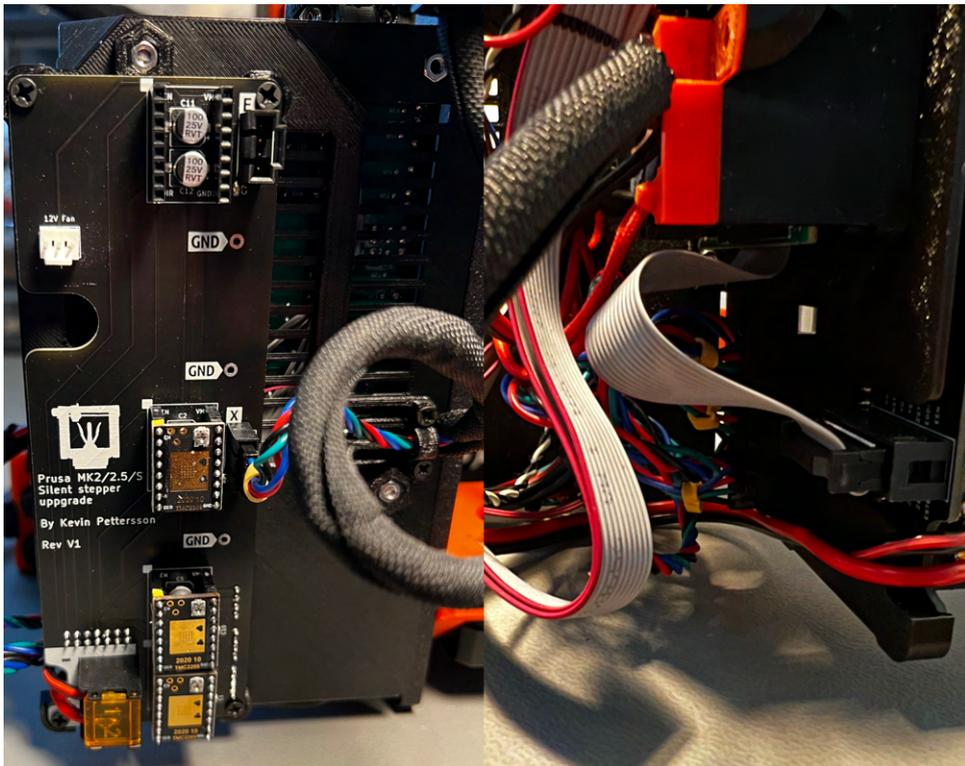

Figure 13: View of front and back of **XYZE** upgrade board for X, Y and Z installation, NOTE depicted image is of V1. V1.1 looks slightly different.
You can now mount the upgrade board with 4 of the included threaded screws. You can then install the power cable in the correct orientation, motor cables, data cable, X-axis strain relief and stepper drivers. I suggest installing the drivers without heat-sink as it will be easier to adjust the v_{ref} later. The result at this stage should look like Figure 13.
5. Lastly, add the cable to the cable sleeve and connect it to the LED port located next to the X-axis motor connector, as depicted in Figure 13. Please note that you should use the larger strain relief holder on the upgrade board and double check that the red wire is towards the + sign on the board.